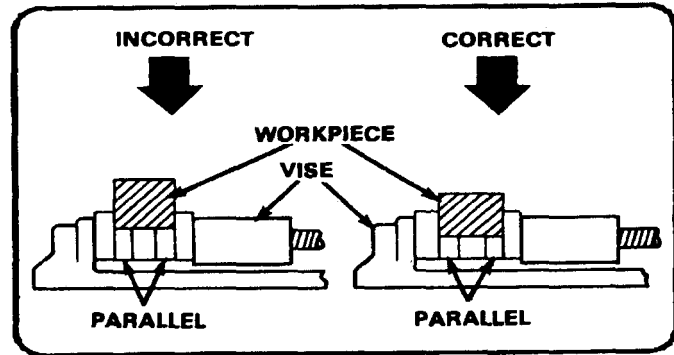

Figure 4-26. Parallels being used to support a workpiece.
- Parallels are precision ground rectangular bars are used to keep the workpiece parallel with the worktable when the workpiece must be raised above the worktable surface, such as when drilling completely through a workpiece (Figure 4-26). Parallels come in matched sets and can be solid or adjustable as needed.